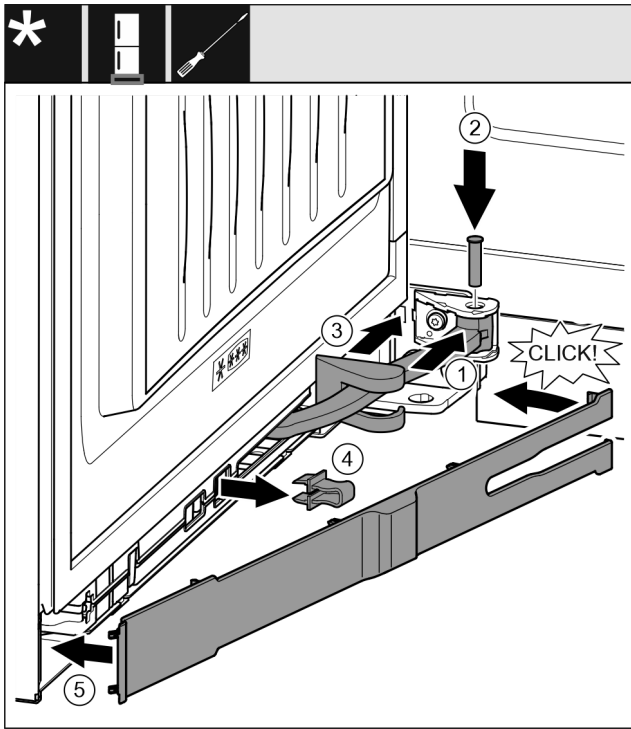

Fig. 53
- ▶ Turn the joint *Fig. 53 (1)* in the attachment.
- ▶ Use a screwdriver to insert the bolt *Fig. 53 (2)* into the attachment and the joint. Ensure that the latching cam is in the groove properly.
- ▶ Push the swap bearing block cover *Fig. 53 (3)* along the joint and use the attachment to fit it.
- ▶ Remove the safeguard *Fig. 53 (4)*.
- ▶ Place the trim *Fig. 53 (5)* on the handle side and swing in.